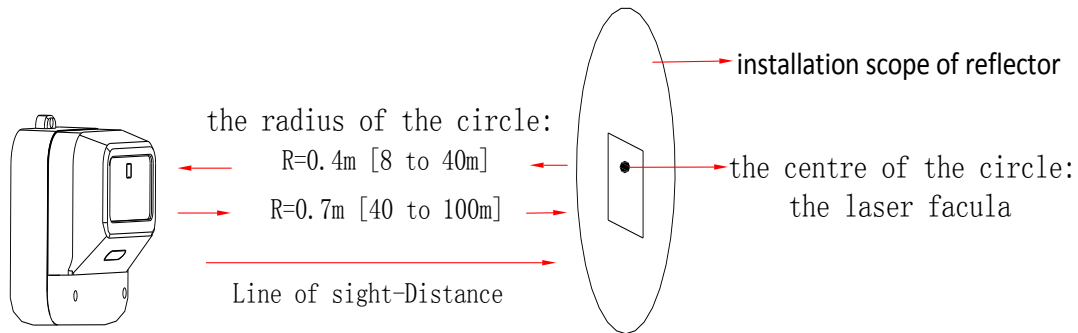

Figure 7 The installation scope of Reflector
- ✧ There is no need to find an accurate installation position of reflector. An installation scope of reflector has been noted in Figure 7